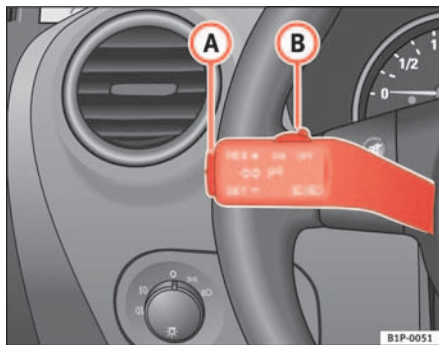

Fig. 121 Turn signal and main beam lever: Switch and rocker switch for CCS
- Push the switch ⇒ fig. 121 (B) to the left to the position **ON**.